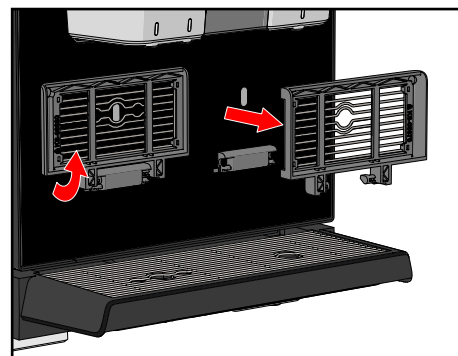

Figure 38.
1. Remove the hot water and coffee cup tray (see Figure 38) and clean them with hot water